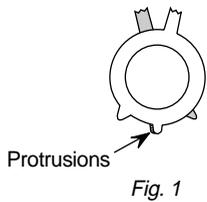

Fig. 1
- (1) Receive an image of the white crosshatch signals (white lines on black).
- (2) Place the protrusions of the 6-fold poles magnet attached to the CRT neck upon each other. (Fig. 1)
- (3) Make rough adjustment of the H and V direction convergence by using 4-fold poles magnet.
- (4) Make a rough adjustment of the V direction convergence by using "V. STAT".